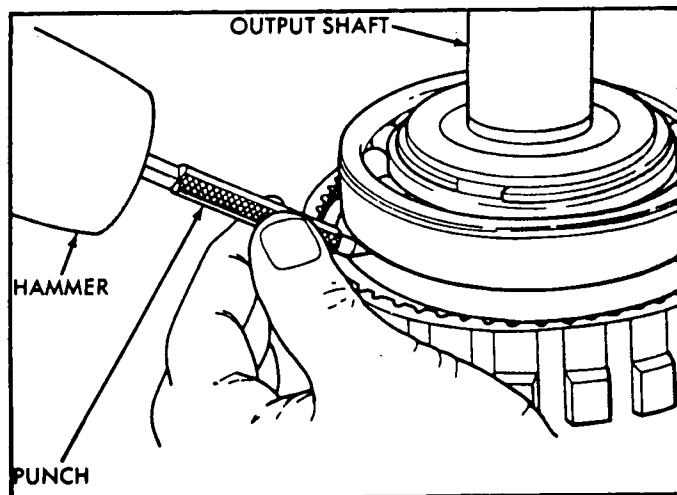

Figure 22
29. Mark position of annulus gear and the output shaft for assembly alignment reference, as shown in Figure 22, with a small center punch or scribe.